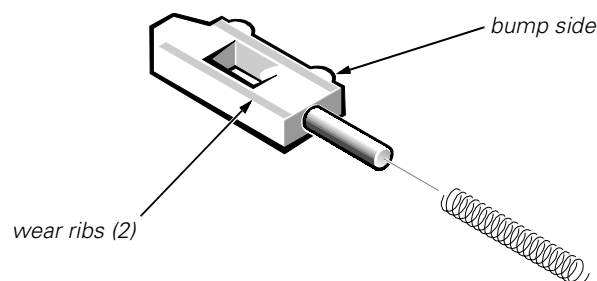

Figure 21. Left Module Latch and Spring
- b. Ensure that the slider is inserted in its respective hole, that the side of the latch with the two bumps is facing the back of the case, and that the surface with the wear ribs is facing the bottom of the case (see Figure 21).